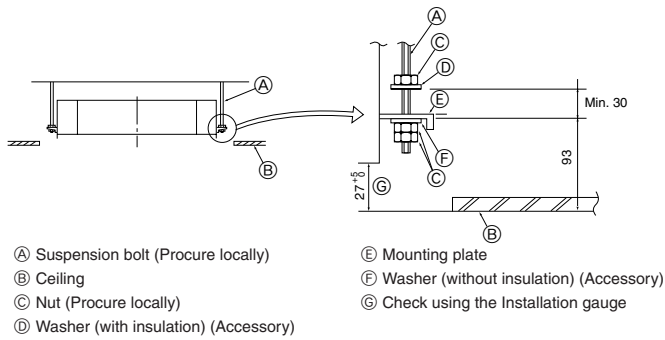

Fig. 4-5
4.5. Unit suspension procedures (Fig. 4-5)